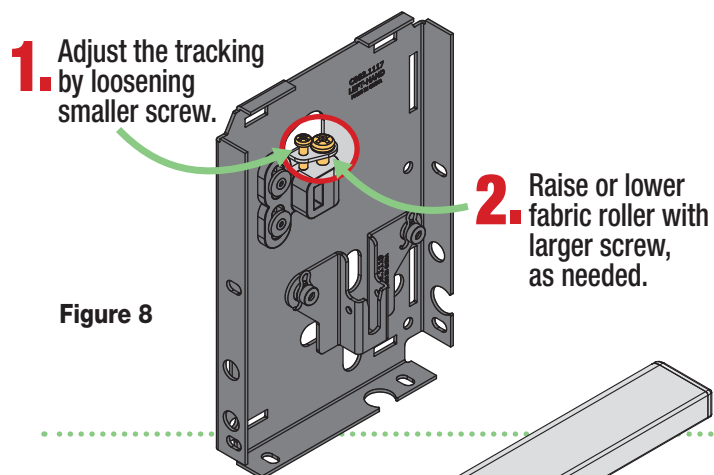

Figure 8
- Adjust the tracking by loosening the smaller screw, and then raising or lowering the fabric roller with the larger screw, as needed (Fig. 8).